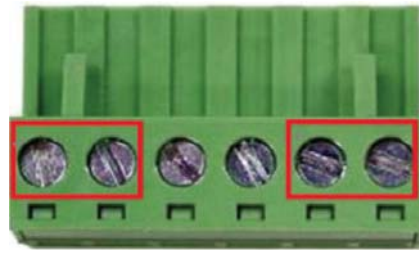

Figure 12. Power Terminal Block
2. Tighten the wire-clamp screws to prevent the wires from loosening, as shown in figure 12 on page 22.